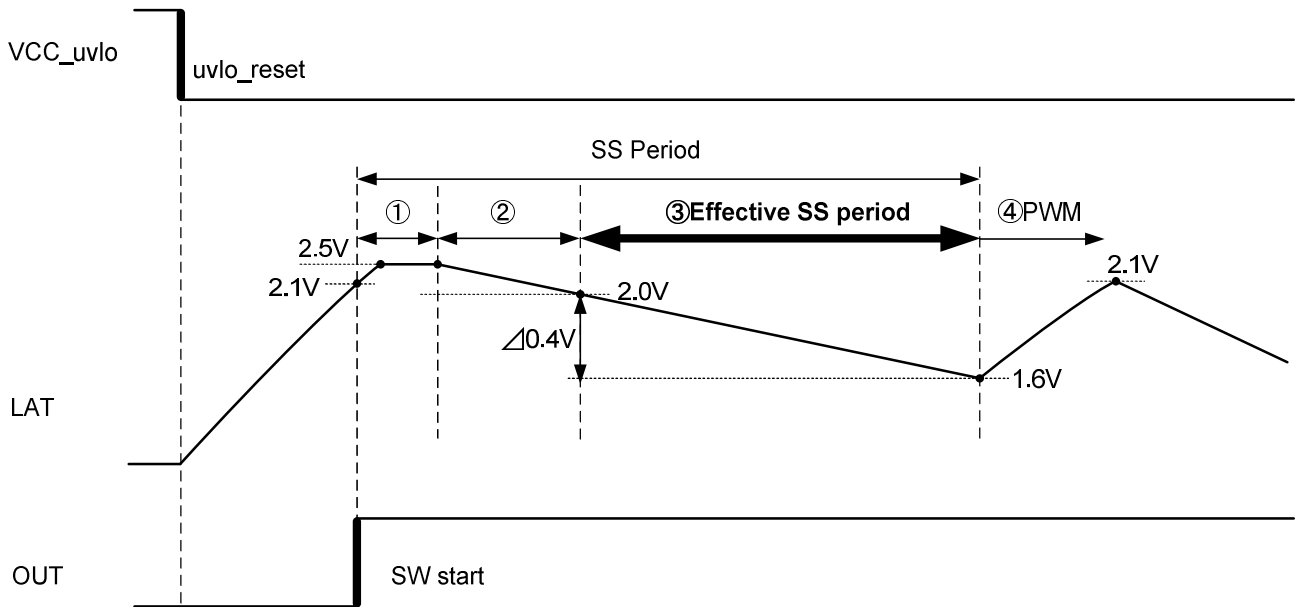

Fig.16 Soft-start operation
Fig. 16 shows the soft-start timing chart at start up. (1)(2)(3) are soft start period in Fig.16.